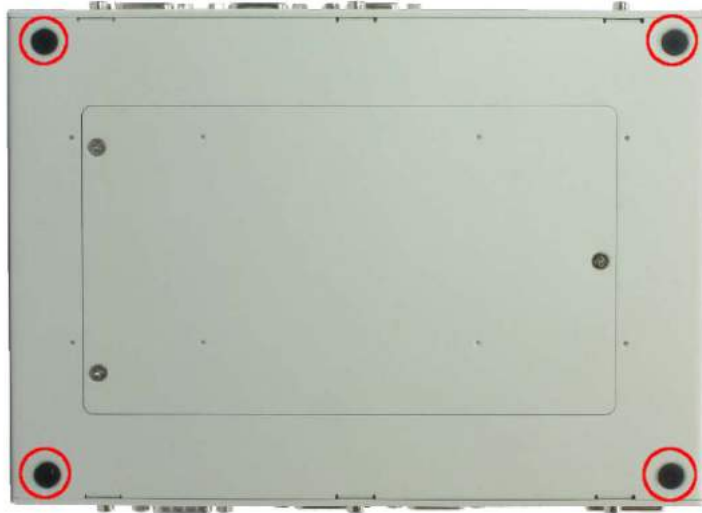

Figure 60: Footpad of Nuvo-2510VTC
1. Take away the foot pad on the bottom of your system. Refer to *Figure 60*